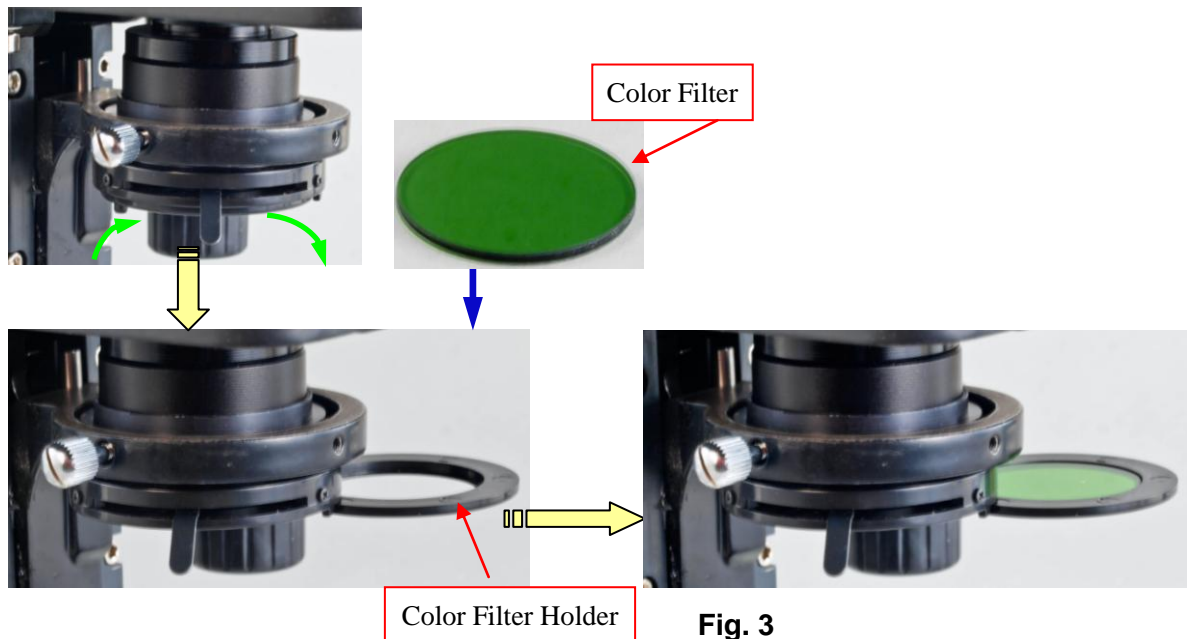

Fig. 3
- 2) Place the filter into the holder as shown in **Fig. 3**, swing the holder in.